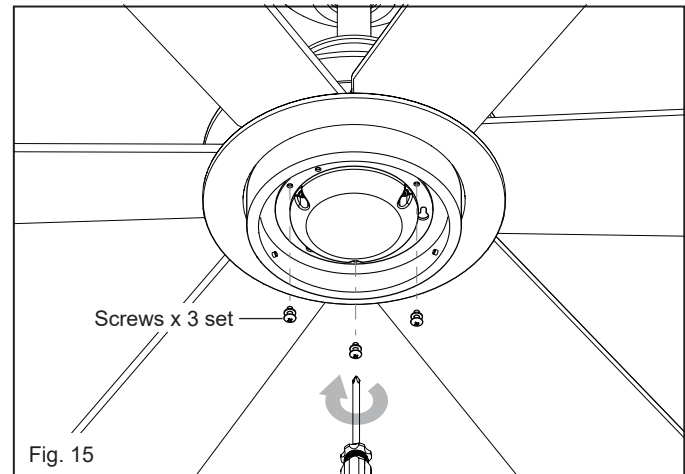

Fig. 15
- 2 Align the screw holes on the LED assembly to the screw holes on the lighting plate. Tighten the three screws. (Fig. 15)